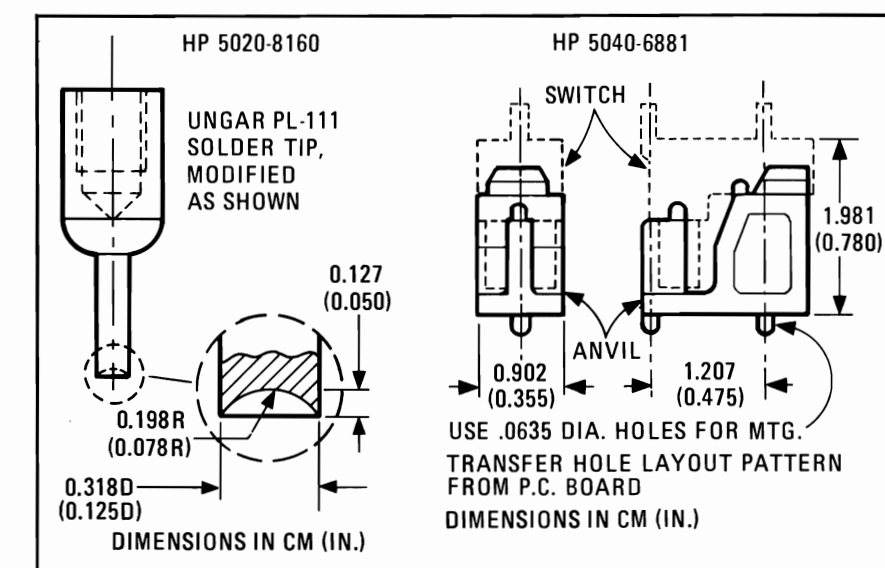

Figure 8-123. Heat Staking Tip and Assembly Anvil
5. For reliable operation, any method of assembly must assure that the switch is mounted tightly against the pc board. To facilitate the heat staking operation, specially molded support anvils (HP 5040-6881) can be ordered. Refer to Figure 8-123.